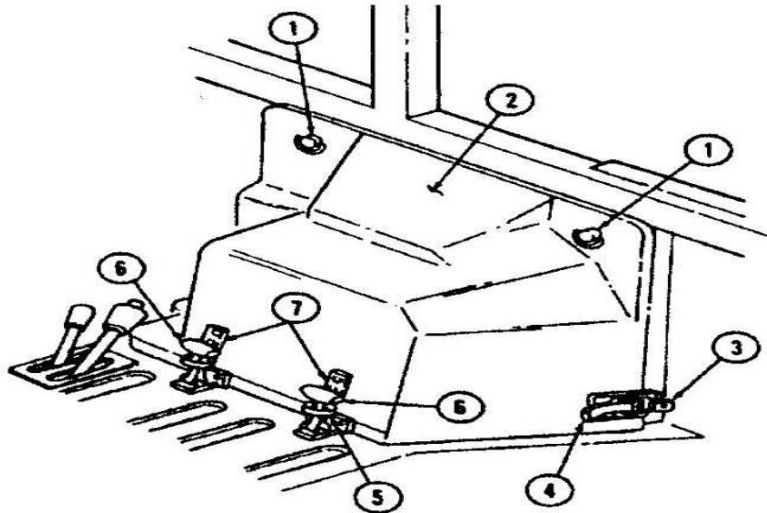

Figure 6
f. Removal of Engine Access Cover. Refer to TM 9-2320-387-24-2, Chapter 10, Task Para 10-22, Page 10-25 and **Figure 6** contained in these instructions.
- (1) Unlatch two flexible latches (6) from keepers (5) on hold down brackets (7).
- (2) Unlatch two hold down latches (4) from hold down strikes (3).
- (3) Turn two ring studs (1) and remove access cover (2) from vehicle.